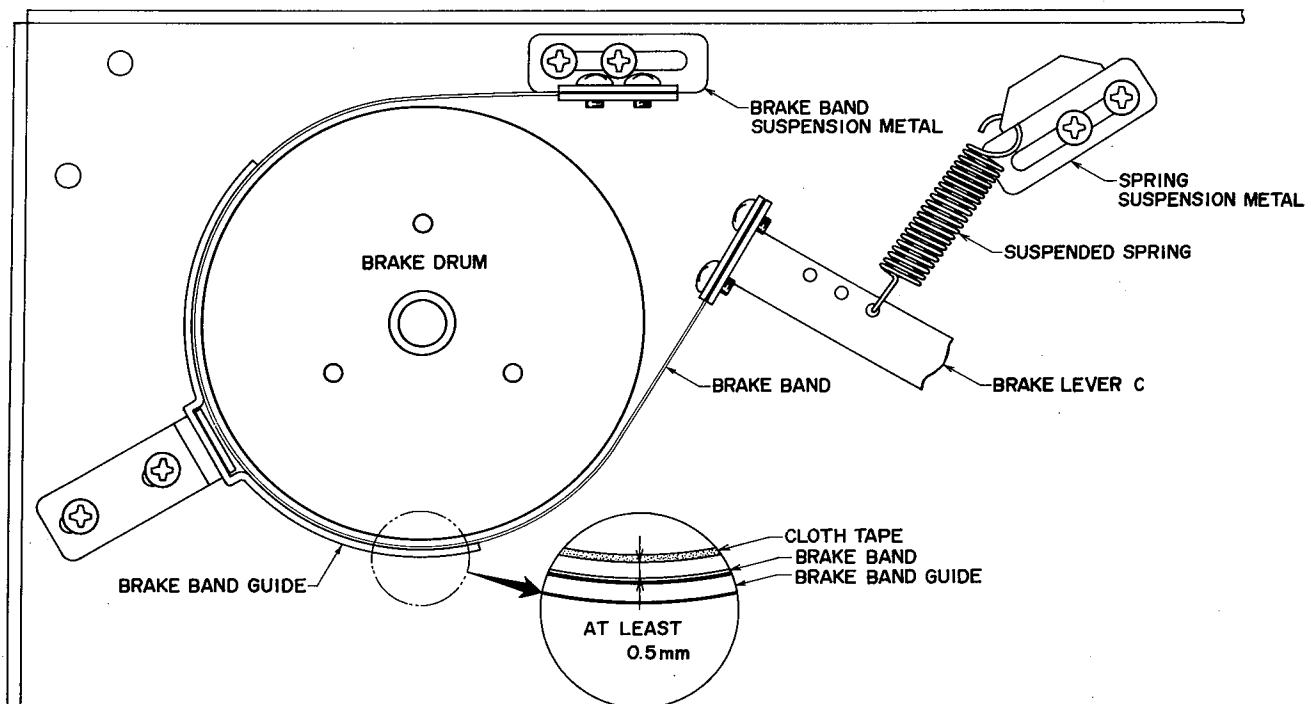

Fig. 6
- 2) Here are the ways to adjust brake tension (Refer to Fig. 6).
**Note:** After adjusting brake tension, make sure the brake band completely separates from the cross tape of the brake drum by more than 0.5mm for each mode except STOP (Refer to Fig. 6).